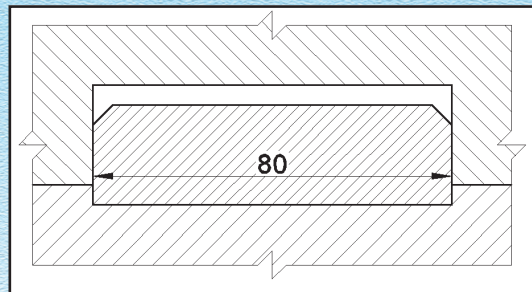

Fig. 5.11 No Hatching over text/dimensions
1. Hatching shall be interrupted when it is not possible to place inscriptions (i.e. dimensions or text), outside the hatched areas as shown in the Fig. 5.11 below: